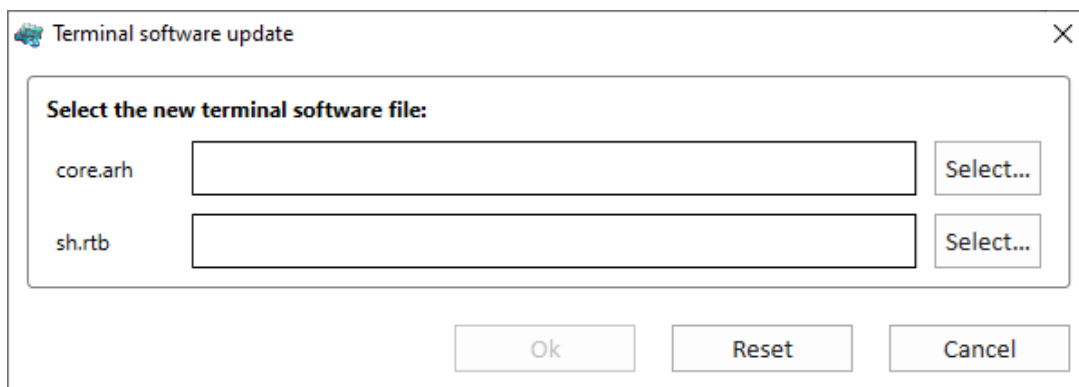

Figure 36 – IED software update window
3.2.1.2 Device software is replaced via menu item  → **Update software...** When you select this item (figure 11) a dialog box (figure 36) is displayed in which you must specify the path to the **core.arh** or **sh.rtb** file, then confirm the selection by clicking the **Open** button. If the version of the selected file is incorrect, a corresponding entry will appear in the dialog box.